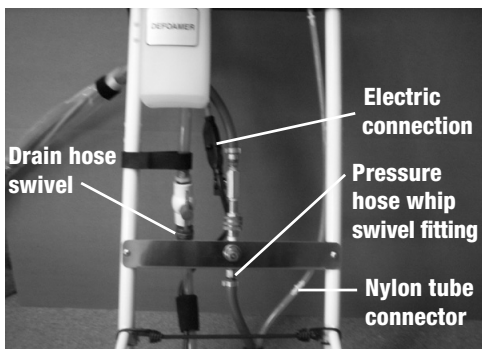

Figure 1
2. Unswivel both pressure hose whip swivel fitting and drain hose swivel (fig. 1). Unplug electrical connection and pull defoamer tube off nylon tube connection (fig. 1).